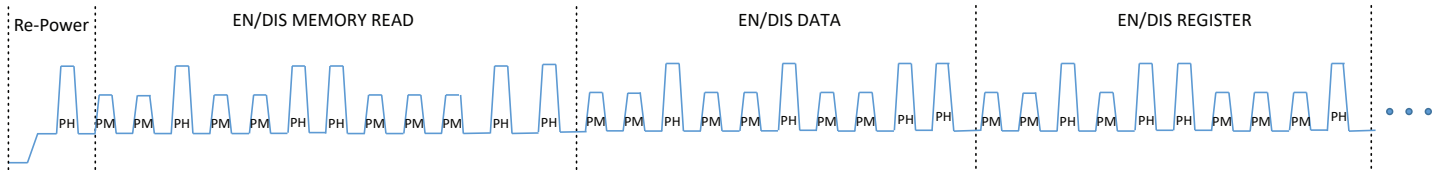
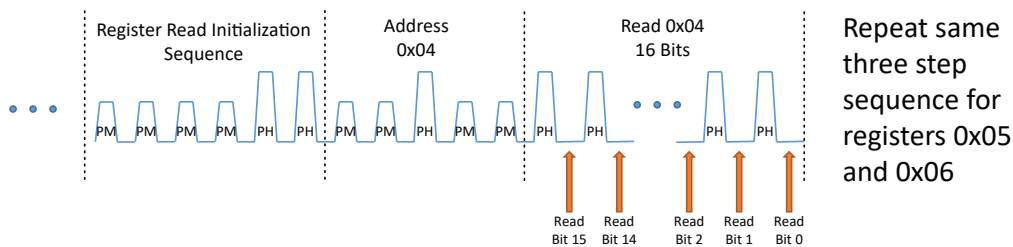

Figure 17: VCC Pulse Sequence to enter EEPROM Readback Mode
Figure 18: VCC Pulse Sequence to Read back EEPROM while in Readback Mode
To read back bits from EEPROM registers, a sequence of initialization and addressing pulses must be applied to the VCC pin of the device and then the 16 bits must be sequenced out as current pulses between high-voltage (PH) pulses. The programming sequence required to read the 0x04 EEPROM bank after a re-power, including the initialization sequence, is shown below in Figure 17. Entering readback mode without having power-cycled the device, such as after completing an EEPROM write, is achieved by skipping the initial Re-Power PH pulse. Figure 17 and Figure 18 show the sequence to read the EEPROM addresses 0x05 and 0x06 following the initialization sequence shown in Figure 17. After each PH pulse is applied to VCC by the user, the APS11900 will send out one bit to be read. Digital 0s are represented by $I_{CC(L)}$ and digital 1s are represented by $I_{CC(H)}$. Reference the product datasheet for the specified $I_{CC(L)}$ and $I_{CC(H)}$ ranges. This process is illustrated in Figure 18.
“EN/DIS MEMORY READ”, “EN/DIS DATA OUT”, and “EN/DIS REGISTER” can be thought of as functional toggle switches. When the device is sent each of these pulse sequences, it reacts by toggling its state. After sending these three commands shown in Figure 17, the device is configured in Read mode. The device stays in read mode until toggled OFF. When reading multiple registers sequentially, the pulse sequences shown in Figure 17 should only be sent one time. Figure 18 can be repeated for additional register reads. Read mode can be toggled OFF by resending the “EN/DIS MEMORY READ” sequence or by restarting the part.